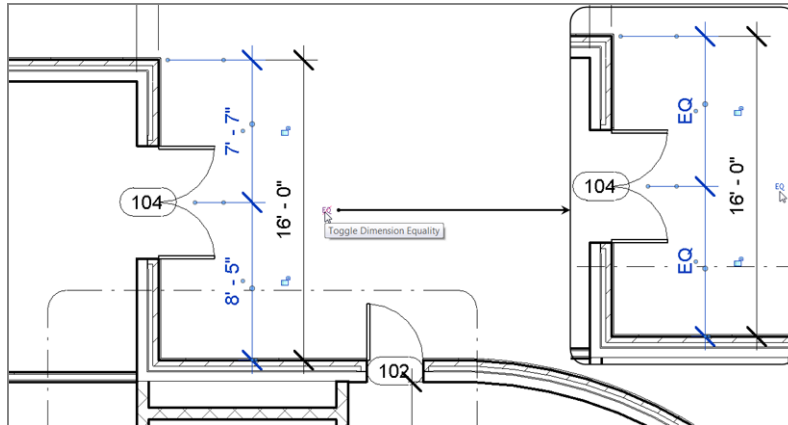

FIGURE 5.8 : You can use the dimension string to move the door by clicking the EQ button.
5. Click the blue EQ button, as shown in Figure 5.8. If the door was not exactly centered, this will force the door to move to an equal distance between the two walls.